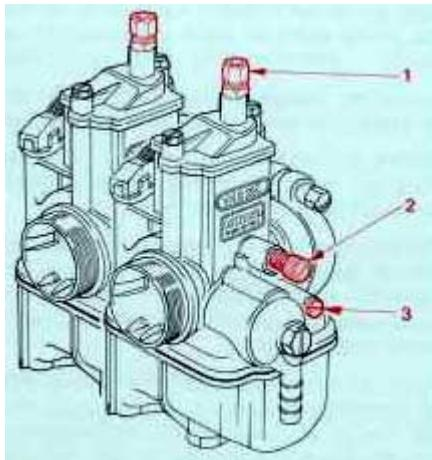
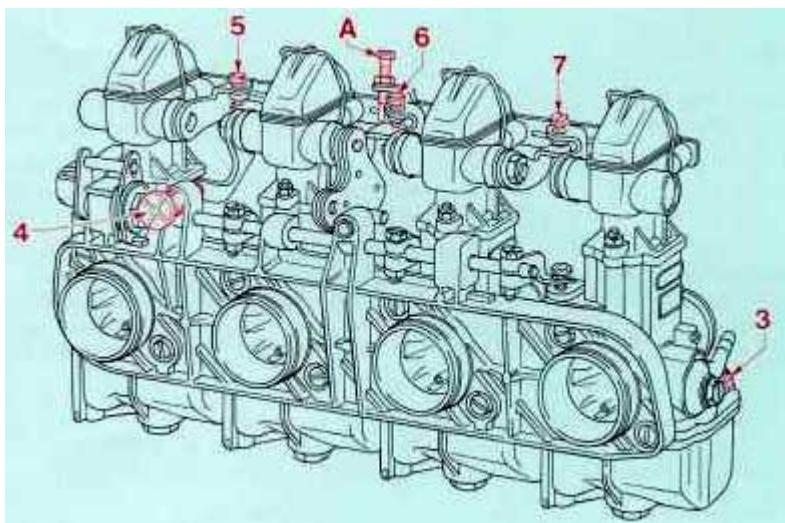

fig. 31
fig. 32
1. with Carburetors **separated** (figure 31) and therefore with a throttle cable each.
2. with Carburetors **mounted together** in a rigid group by means of a suitable flange (figure 32) and with a single control cable.
Make sure, both for independent (figure 31) and grouped Carburetors (figure 32), that each throttle cable has about 1mm free play at idle.
Start the engine and when it has reached normal running temperature, adjust the idle speed to about 1000 rpm using the throttle adjusting screw (2) in figure 31 or screw (4) in figure 32.
for independent Carburetors (figure 31) align the mercury column levels using the throttle adjusting screws (2) on each
for Carburetor s mounted together in a group (figure 32) align the mercury column levels with the level of the Carburetor connected directly to the throttle control, adjusting the balance- adjusting screws (5), (6), (7).
Recheck the alignment of the mercury columns and then reset the engine to the desired idle speed using the throttle adjusting screw (2) in figure 31 or screw (4) in figure 32.
For independent Carburetors (figure 31) check that the alignment of the mercury columns is unaffected by slightly opening the throttle. If it is, adjust the individual cable-adjuster screws (1) to correct this.